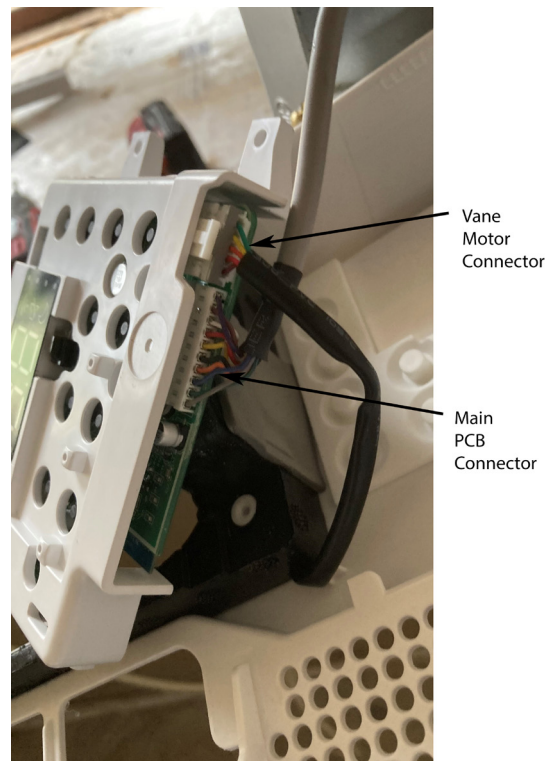

Figure 603
9. Disconnect the vane motor connector from display PCB shown in figure 603.